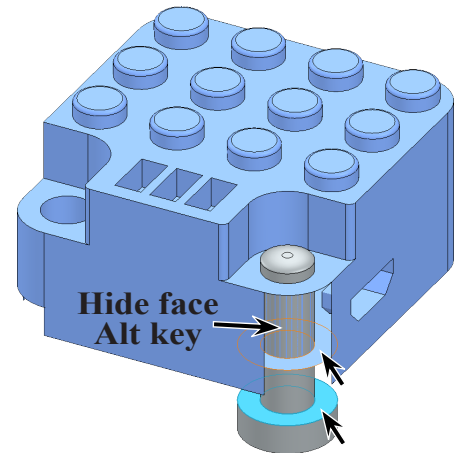

Fig. 6
Step 4. Click **top face of Extrude1 on Terminal** and **hide side face of Battery**, click **bottom face of hole in Battery**, Fig. 6. To hide face, hover cursor over face and press **Alt** key.